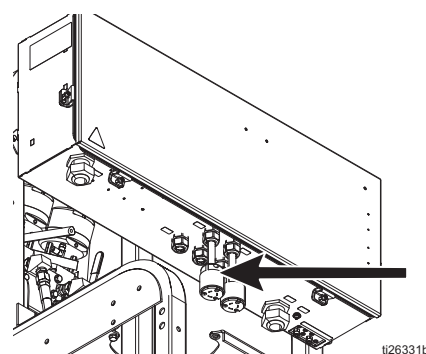

FIG. 2: Heater Power Cable
1. Use four bolts (4) to install the bracket (2) onto the system frame.
2. Use four bolts and nuts (4, 5) to install tank (1) onto bracket (2).
3. Follow **Connect Air Supply**, page 8. Connect air hose (8) to circulation pump (53) and diaphragm pump (P) on the PFP system.
4. Connect suction hose (F) to the flush pump and insert in the hot water flush tank.
- a. *Model 24Y132:* With the heater ON/OFF toggle switch (H) OFF, connect power cable to the corded receptacle hanging below the junction box on the XM PFP sprayer.
- b. *Model 24X113:* With the heater ON/OFF toggle switch (H) OFF, route the heater power cable through the Flush Heater cord grip. See FIG. 2, page 5. See system manual for power connection.
1. Use four bolts (4) to connect the three bracket pieces (2, 6, 7).
2. Use four bolts (4) to install the bracket assembly (2) onto system frame.
3. Use four bolts and nuts (4, 5) to install tank (1) onto bracket assembly (2).
5. Connect suction hose (F) to the flush pump and insert in the hot water flush tank.
- a. *Model 24Y132:* Connect With the heater ON/OFF toggle switch (H) OFF, connect power cable to the corded receptacle hanging below the junction box on the XM PFP sprayer.